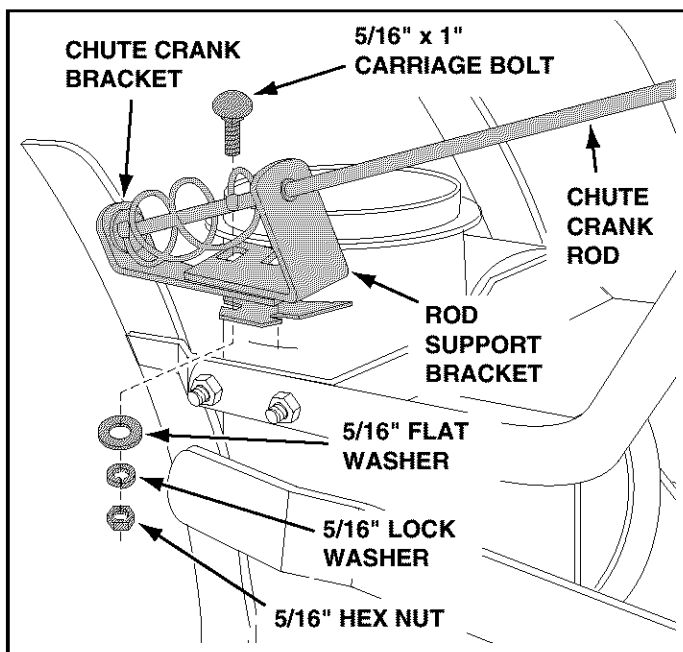

FIGURE 19 LEFT SIDE VIEW
- Attach the chute crank rod assembly brackets to the plastic bracket on the left side of the thrower housing. Align the chute crank bracket beneath the rod support bracket and assemble both to the plastic bracket using two 5/16" x 1" carriage bolts, 5/16" flat washers, 5/16" lock washers and 5/16" hex nuts. **Do not tighten yet.** See figure 19.
- Position the crank rod spiral so that it does not rub against the bottoms of the notches in the chute flange. **Tighten** the nuts. Refer back to figure 19.